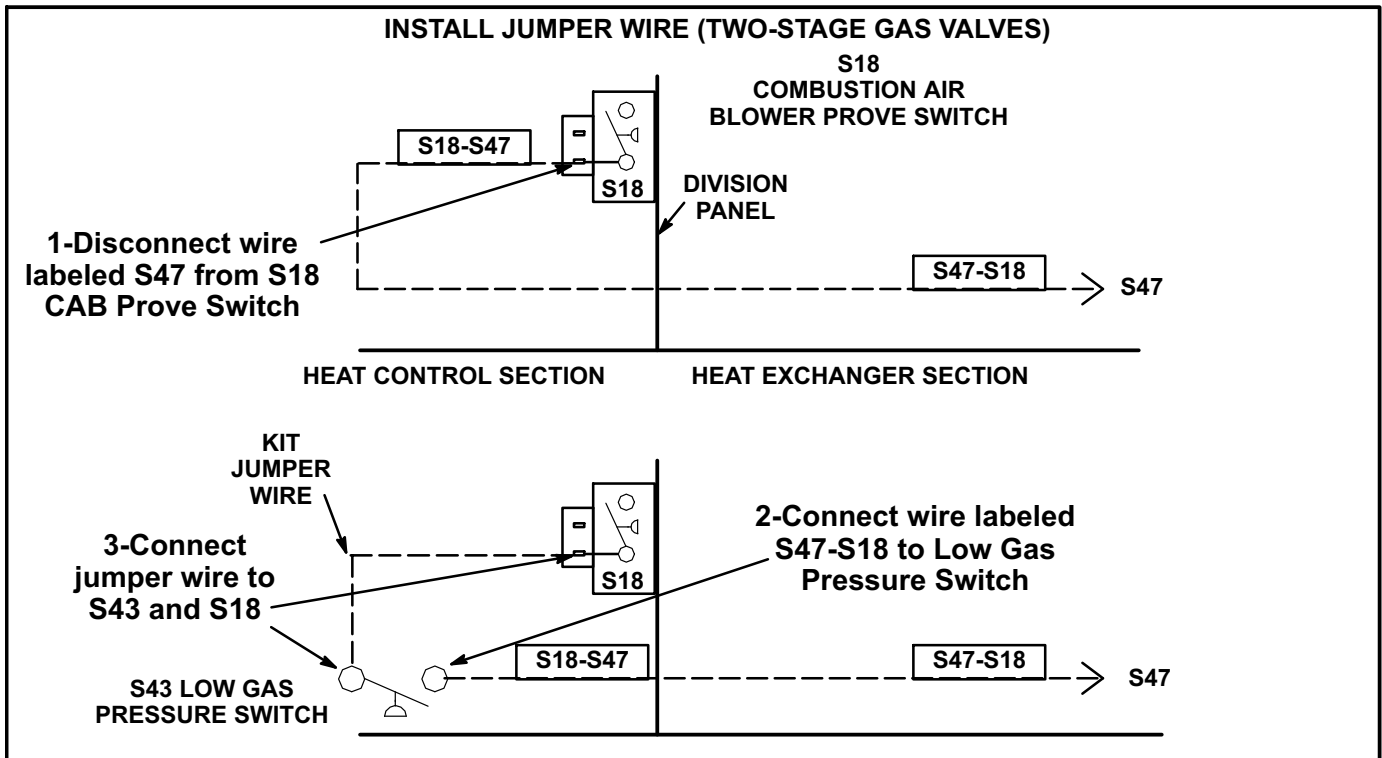

FIGURE 7
- 6- Locate S18 combustion air prove switch and disconnect wire labeled S18-S47. See figure 7.
- 7- Reattach wire marked S18-S47 to S43 LP low pressure switch on gas valve. See figure 7.
- 8- Connect the jumper wire provided in this kit to S43 pressure switch and S18 combustion air prove switch. See Figure 7.